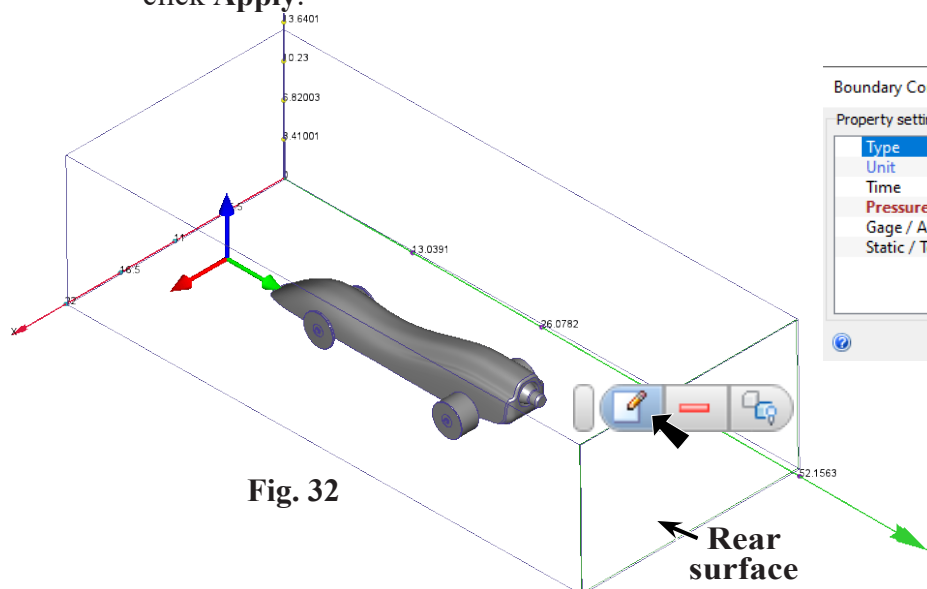

Fig. 32
Step 5. Click the **rear surface of Tunnel** outline and click **Edit**  in the pop-up, Fig. 32.